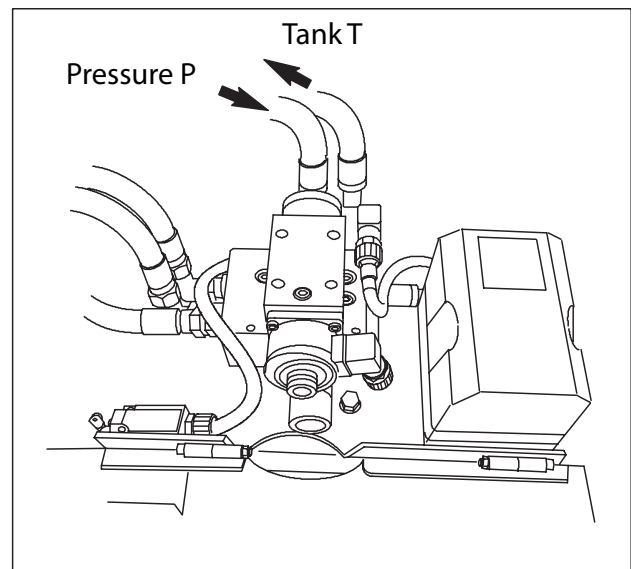

Fig. 8. Connecting the hydraulics
5. Connect the hydraulic hoses. Connect the pressure hose (P on the valve) to the pressure connector of the tractor's hydraulic system. The maximum operating pressure is 175 bar. Connect the return hose (T) to the return connector of the double-acting valve, or preferably directly to the tank. Fig. 8.